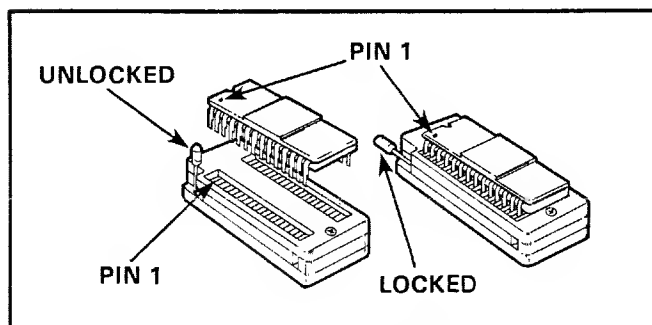

Figure 3-4. Device Installation
2. Lift the lever on the upper-left side of the socket below the lighted LED (see figure 3-4); the lever will stay in the upright position.
3. Gently set the device in the socket below the lighted LED. Make sure pin 1 of the device is aligned with pin 1 of the socket (upper-left corner); see figure 3-4.
2. Lift the lever on the left side of the socket; see figure 3-4. The lever will remain in the upright position.